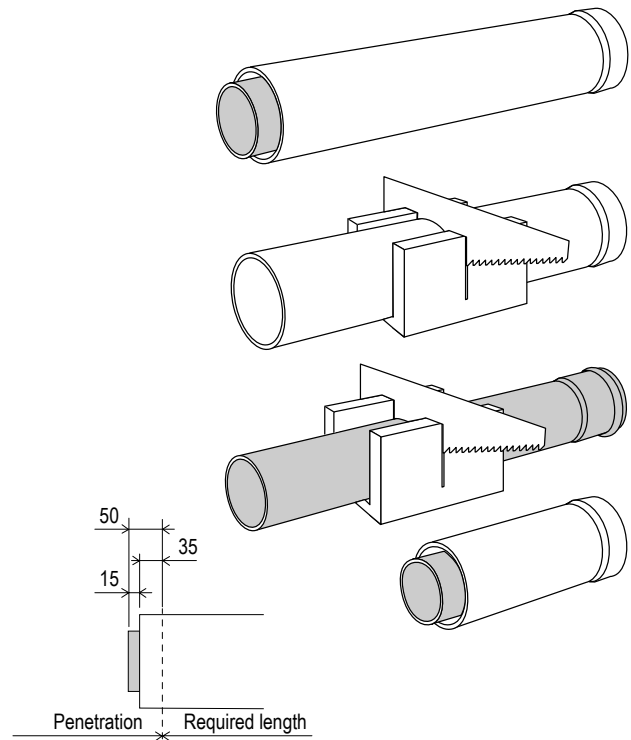

Fig.9
(See the section 'Cutting the Flue Components' **(Fig.9)**.)
5. Measure the length of the horizontal terminal and cut to length allowing for the outer section of the flue to extend 10mm through the wall. (See the section cutting flue components (Fig.9).
- Using the dimensions shown in **(Fig. 7)** calculate the required number and combination of extension pieces and bends to be connected between the Infinity unit and wall terminal. Cut each length as required. (See the section cutting flue components **(Fig.9)**).
- Calculate the required number and combination of extension pieces and cut to length as required (See the section cutting flue components **(Fig.9)**)